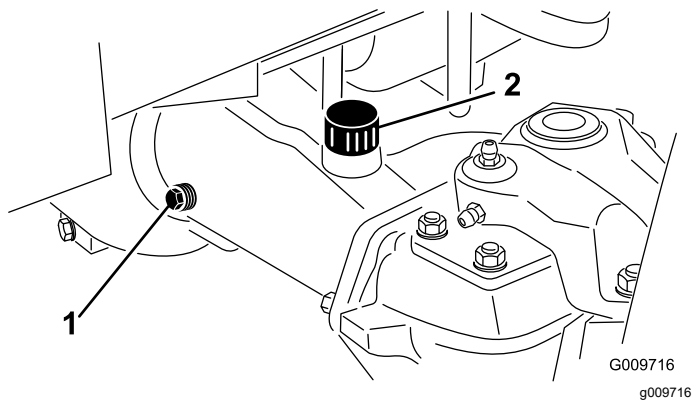

Figure 98
4. Remove the 2 axle housing check plugs and the fill plug to ease in draining of the oil (Figure 98).